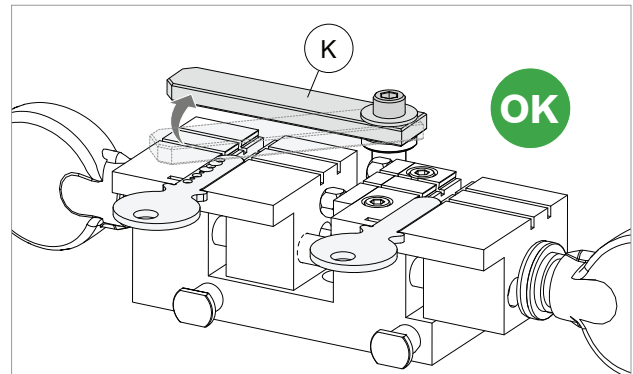
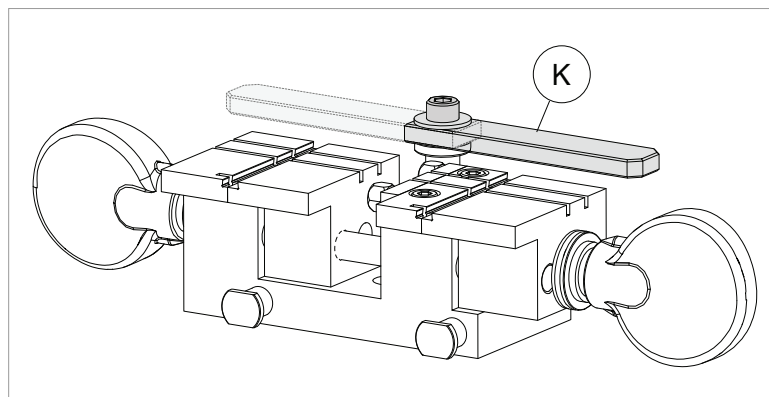

Fig. 23
Fig. 24 - idle positions
- d) check that the tubular key alignment bar (K) is in the idle position (Fig. 23 and Fig. 24).